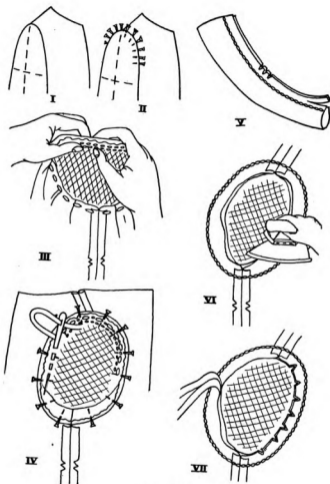

FIGURE 154
*Setting in a Sleeve* (Figure 154). — Place the garment and the sleeve right side out on the model (I). Fold under and pin the center of the sleeve to the armhole at the shoulder so that the vertical line in the sleeve hangs vertically with the arm (II). The reason the matching of notches in sleeves does not always give a perfectly fitted sleeve is because of the many variations in shoulders and upper arms. Fold under the raw edge at the two markings and pin the sleeve to the armseye, taking care that the horizontal lines run straight. If the vertical and horizontal lines are straight, subdivide the top of the sleeve; if there is a fullness that has not been shrunk out, turn the edges under and pin evenly around the top of the sleeve.